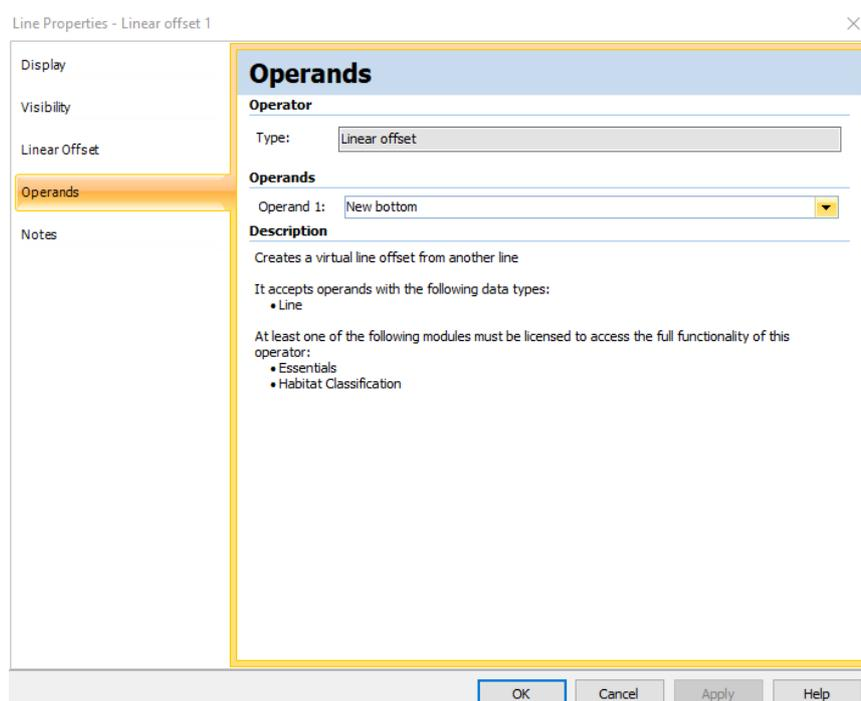

Figure 24: Line Properties dialog box.
37. Click **OK**. This closes the **New Virtual Line** dialog box and opens the **Line Properties** dialog box (Figure 24).